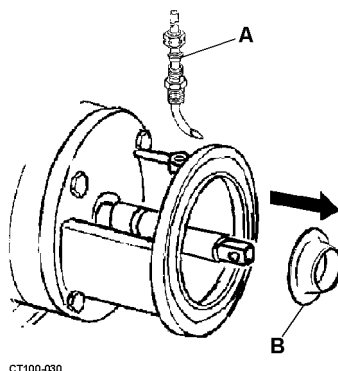

Figure 11 - Cascade System Installation
When this option is ordered, a fitting assembly (see Figure 11, item A) is supplied for directing a flow of water onto the backplate/seal area.
- The water cascade (see Figure 11, item A) mounts in the adapter above the seal on the assembled backplate to flow water onto the seal face.